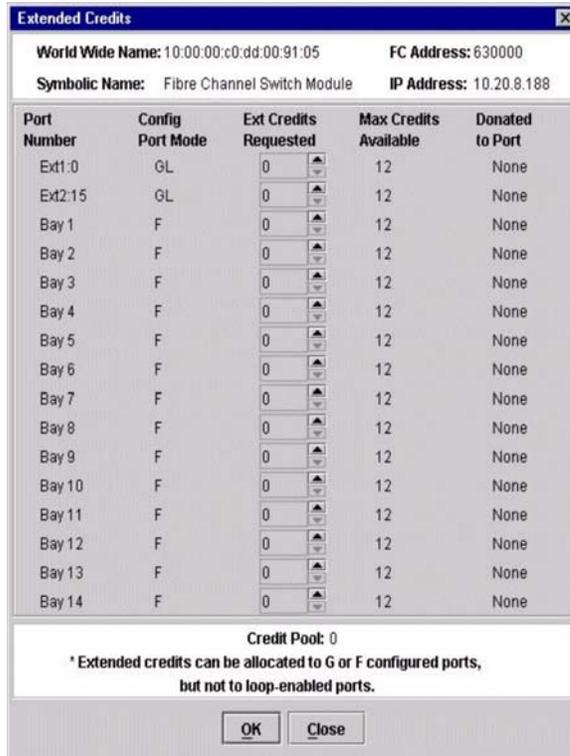

Figure 20. Extended Credits window. 3.
2. In the Faceplate window, select the recipient port. Recipient ports must be external ports configured as G\_Ports or F\_Ports. Click **Port / Extended Credits**. The Extended Credits window opens as shown in Figure 20